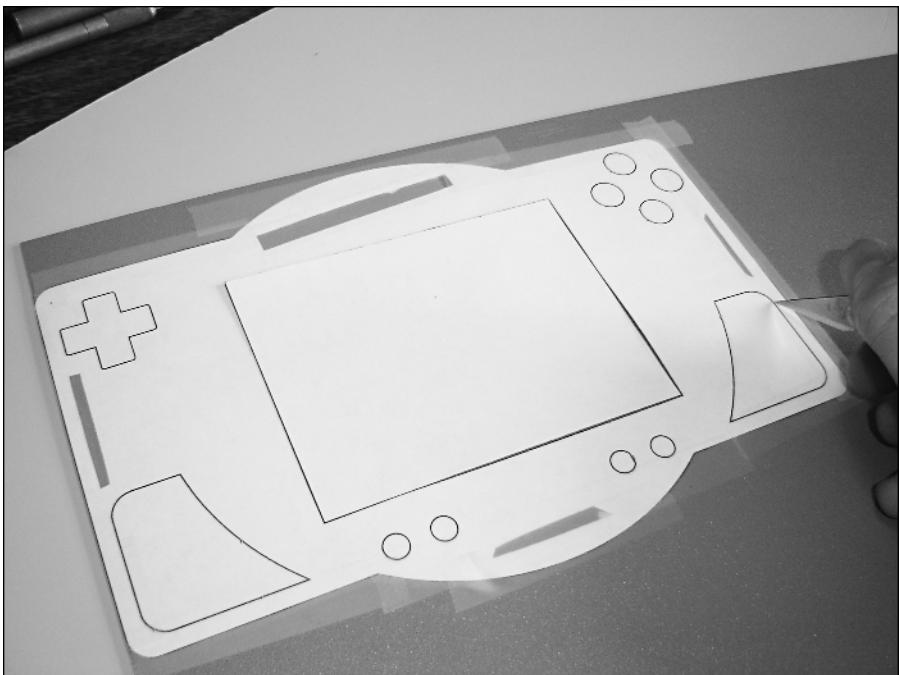

FIGURE 10-2: Cutting the first pattern.
2. Cut the outside main shape of the paper pattern, and tape it down to your piece of engraving plastic as shown in Figure 10-2. Make a few extra slits as shown, so that you have additional places to hold down the paper with tape.